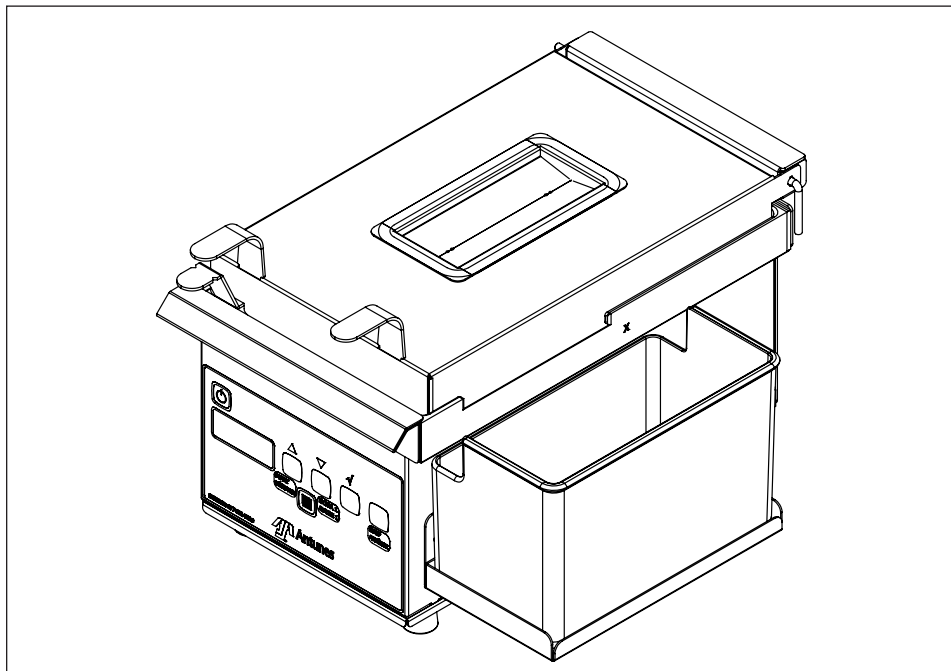

Figure 2. ESM-600
3. Crack the eggs into the egg rings in the order shown in Figure 2.